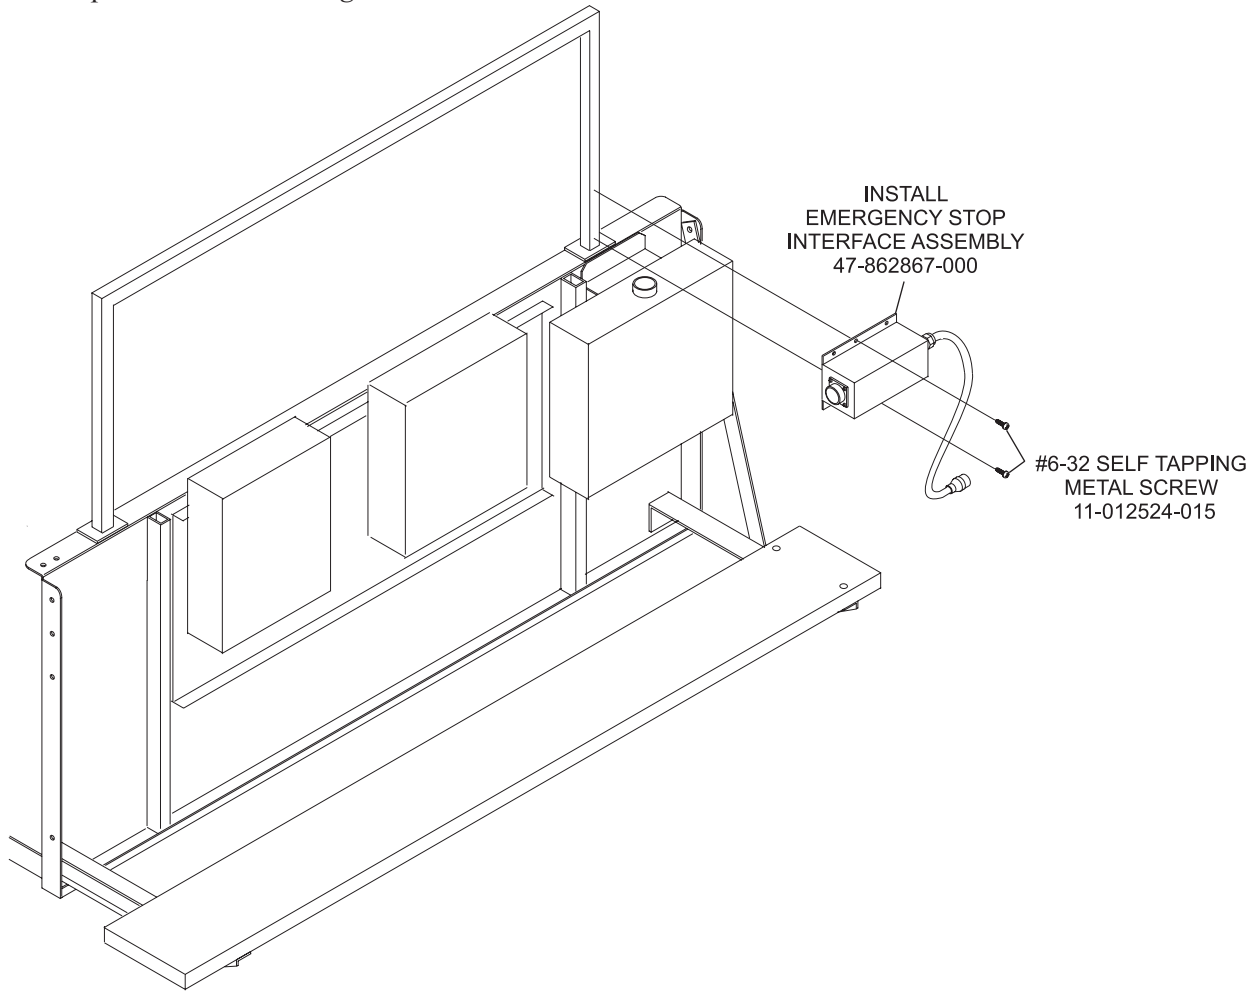

Figure 13
3. Locate and drill the pilot holes for the Emergency Stop Interface Box and install the box to the pinsetter. Refer to *Figure 13*.